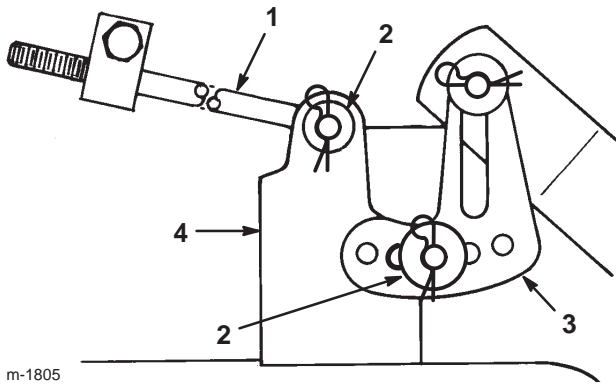

Figure 38
- Slide the end of the long rod through the hole in the mower mount (Fig. 38).
- Mount the slotted mower leveling bracket onto the pin on the height-of-cut arm (Fig. 38).